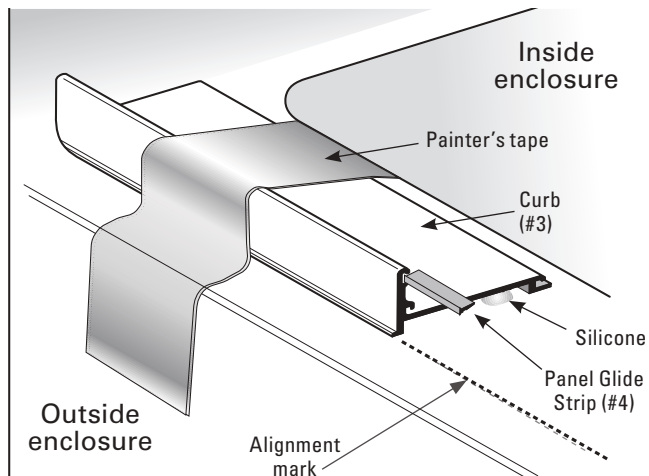

Figure 3
C. Locate the Curb. Remove the Panel Glide Strip from the Curb (See **Figure 3**).
F. Cut two pieces of painter's tape 12" long. Next, use the caulking gun and apply a thick bead of silicone sealant (approximately 3/8" in diameter) to the bottom surface of the Curb as indicated in **Figure 3**. Position the Curb on the tub sill/shower dam. Use the two strips of painter's tape to temporarily secure the Curb in place. **DO NOT** place the tape within 2" of the wall.